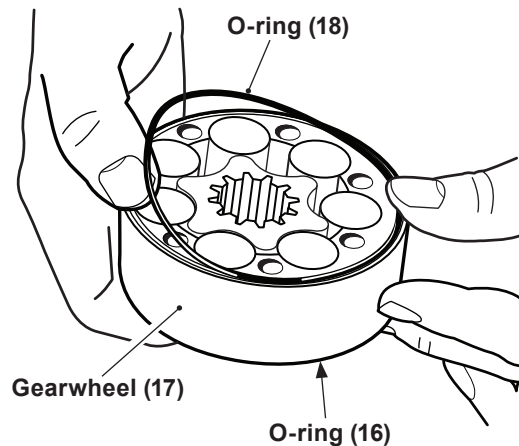

Figure 14, Gearwheel Set/O-ring
1. Mount seal (5), washer (4), and ball bearing (3) onto output shaft (7). See page 11.
2. Install check valves (11), needle bearing (12), output shaft assembly, retaining ring (2), O-ring (13), and distributor plate (14). See pages 12 - 15.
3. Place new O-rings (16, 18) in the O-ring grooves of the gearwheel set (17). See figure 14.